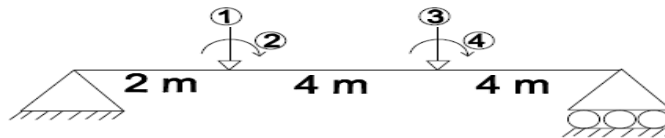

Figure 2
- 2 Develop the stiffness matrix for the given beam [Figure.2] with reference to the co-ordinates shown. EI is constant.